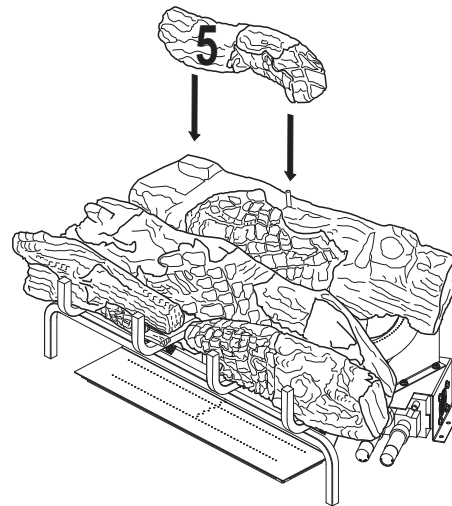

Figure 32 - Installing Log # 5
5. Place the left top back log (#5) on top of the rear log. Match the rectangular projection on top of the left side of the rear log with the rectangular hole on the bottom of the left top back log. Match the metal pin on the top of the rear log with the round hole in the bottom of the left top back log. See **Figure 32**.